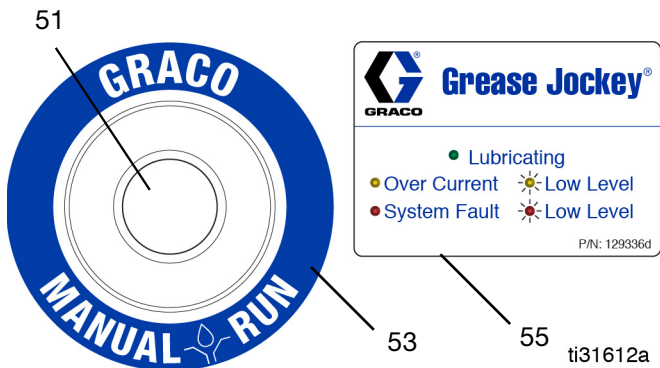

FIG. 19
4. Clean the surface around the outer edge of the push button (1). Position label (53) around the button and adhere label (FIG. 19).